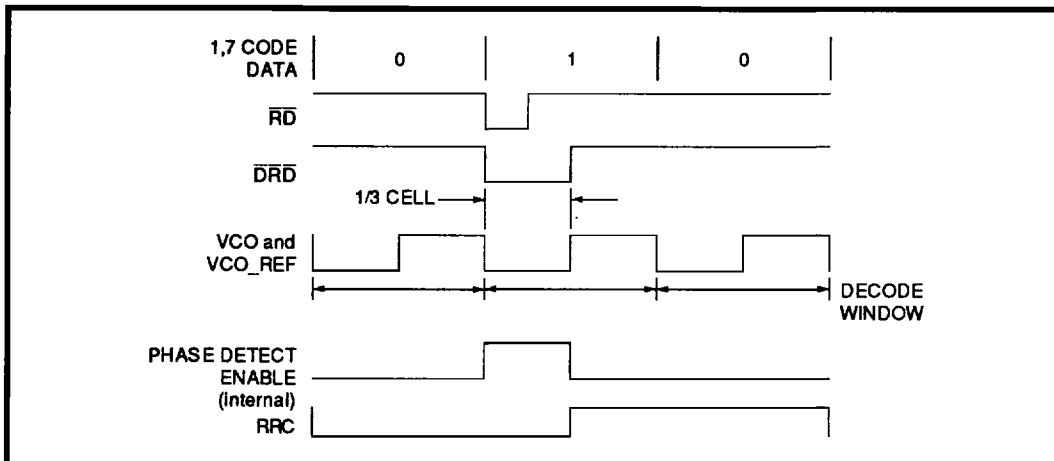

FIGURE 11: Data Synchronization Waveform
The data synchronizer utilizes a fully integrated fast acquisition PLL to accurately develop the decode window. Read gate (RG) initiates the PLL locking sequence and selects the PLL reference input; a high level (read mode) selects the internal RD input and a low level selects the reference clock. In the read mode the falling edge of \overline{DRD} enables the phase detector while the rising edge is phase compared to the rising edge of the VCO reference (VCOR.) As depicted in Figure 11, \overline{DRD} is a 1/3 NRZ bit cell wide pulse whose leading edge is defined by the falling edge of \overline{RD} . A decode window is developed from the VCOR clock.